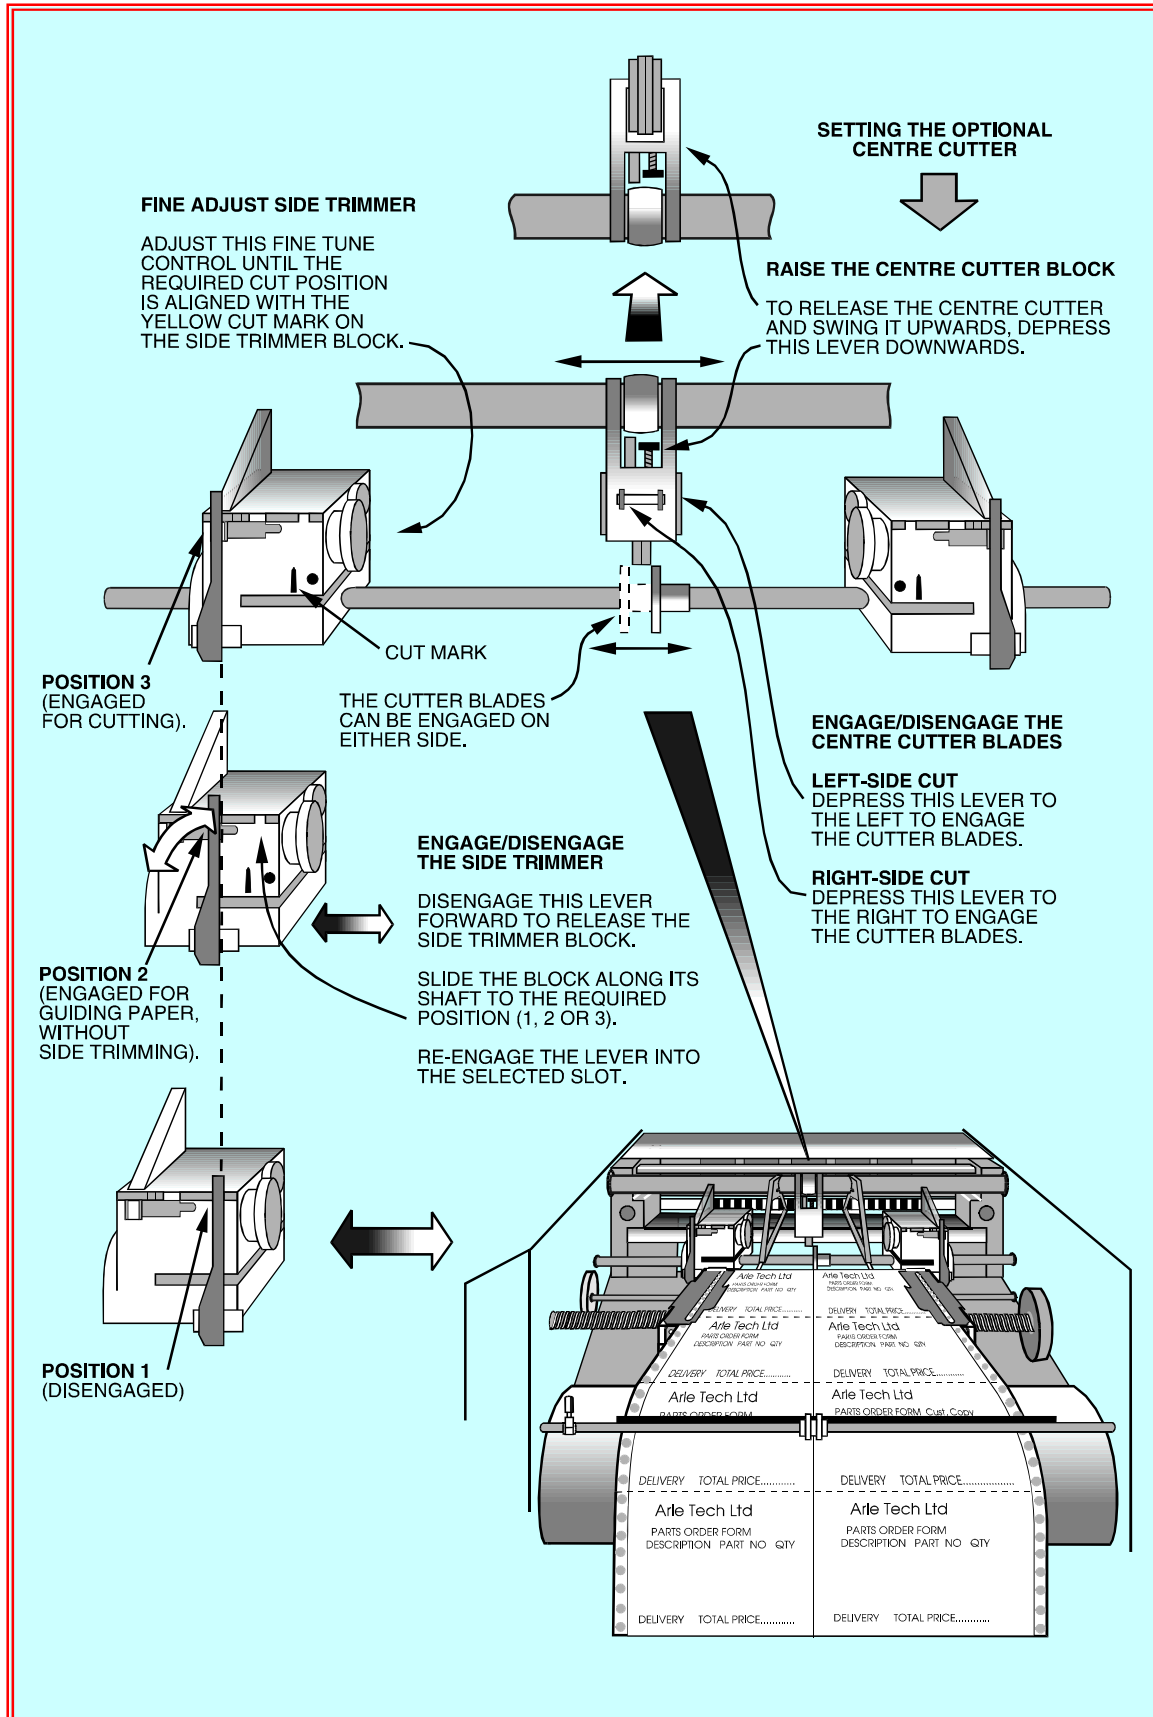

Fig 3.8 Setting the Side Trimmers & (Optional) Centre Cutter
- If a centre cut is required, engage the centre cutter and adjust its position to align with the centre cut mark on the paper web, as shown in Fig 3.8. Close the protective cover. Press the START pushbutton to extinguish the STOP pushbutton.
- As an option, it is possible to set the side trimmers to position 2 as shown on Fig 3.8, so that they are acting as paper guides only, not trimming the sides. Release the centre cutter as shown on Fig 3.8, so that it cannot cut.